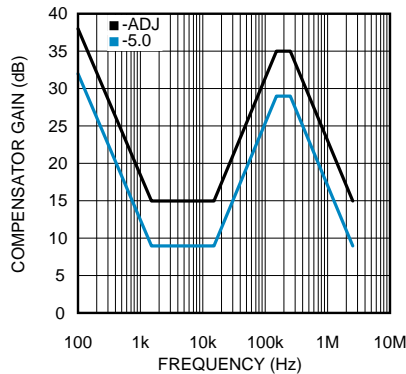

Figure 20. Compensator Gain
The complete transfer function for the regulator loop is found by combining the compensation and power stage transfer functions. The LM22672 has internal type III loop compensation, as detailed in Figure 20. This is the approximate "straight line" function from the FB pin to the input of the PWM modulator. The power stage transfer function consists of a D.C. gain and a second order pole created by the inductor and output capacitor(s). Due to the input voltage feedforward employed in the LM22672, the power stage D.C. gain is fixed at 20dB. The second order pole is characterized by its resonant frequency and its quality factor (Q). For a first pass design, the product of inductance and output capacitance should conform to the following equation: